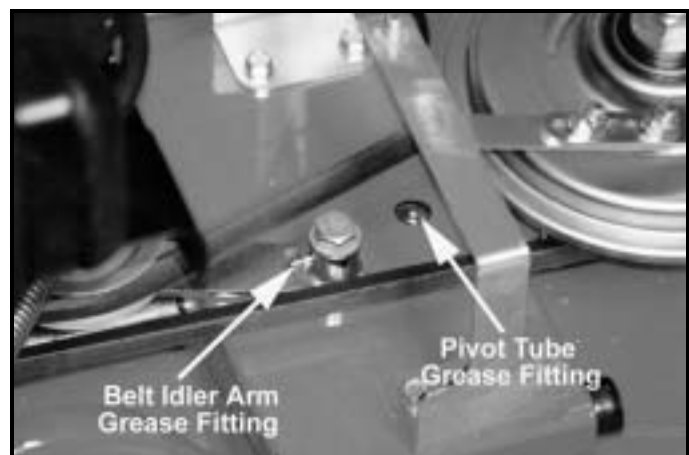

Figure 9
- The mower pivot tube (*Figure 9*) should have 1-2 pumps of grease every 25 operating hours.
- The belt idler arm (*Figure 9*) should have 1-2 pumps of grease every 25 operating hours.